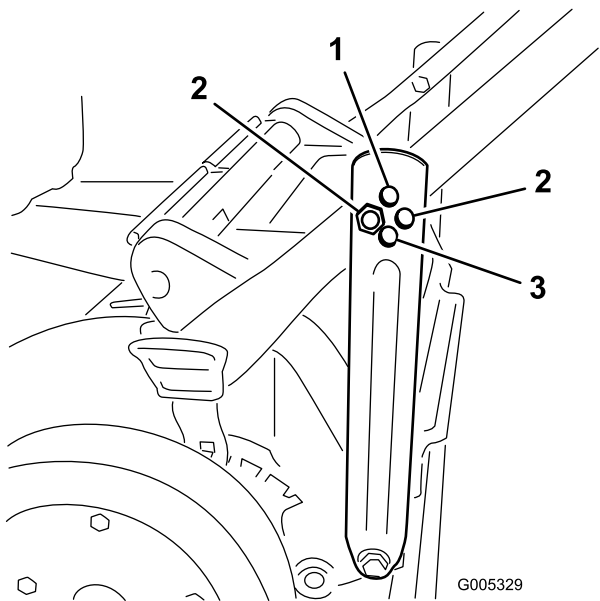

Figure 5
- Insert the bolt through the hole in each of the handle braces that sets the handle to the desired position and tighten (Figure 5).